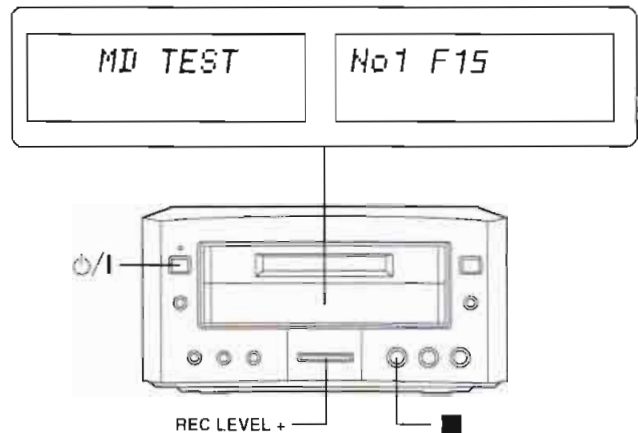

Fig. 4
2. Press and hold  button for at least 2 seconds, and while still pressing  button, press the REC LEVEL + button for at least 2 seconds. (Refer to Fig. 4.) The unit enters Self-Diagnostic Mode and is displayed "MD TEST". Then an error code is displayed, if any. For details of the error codes, refer to Fig. 5. In the case of no errors, "***** ----" is displayed on FL.